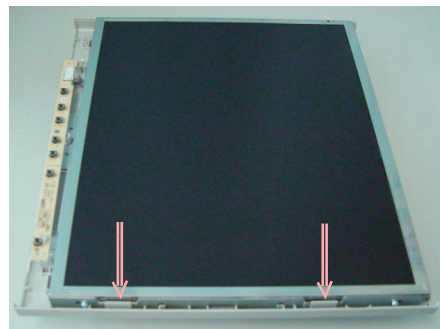

Fig.10
-Use the thin " | " type screw driver to open the clicks as shown in Fig.10